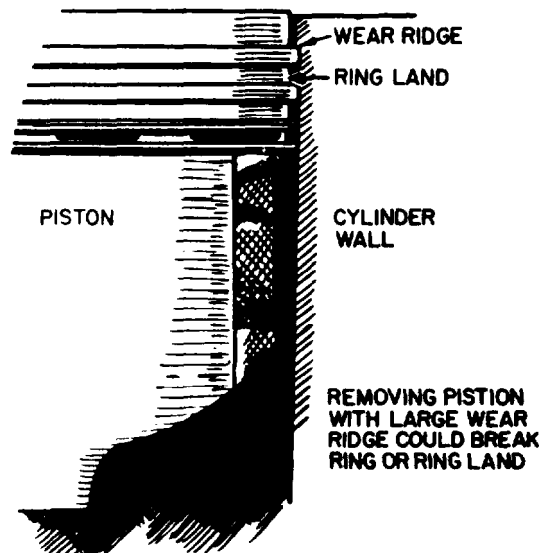

Figure 5-49. Wear Ridge and Cylinder Wall
- (1) Whenever there is a noticeable wear ridge at the top of each cylinder, remove the ridge with a ridge reamer before removing the pistons. If not, the rings can catch the ridge when pushing out the pistons and cause a ring land fracture. See figure 5-49.